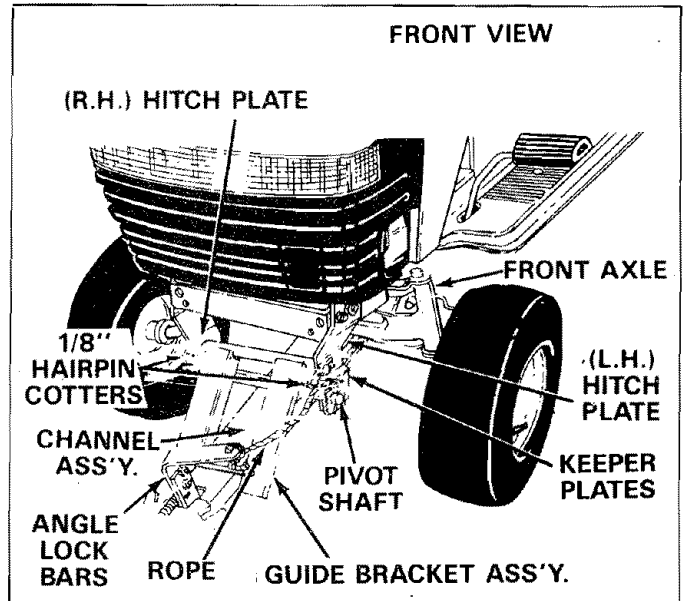

FIGURE 25
3. Refer to figure 25 below and remove 1/8" (large) hairpin cotters from ends of guide bracket assembly and remove guide bracket assembly.
4. Refer to figure 25 above and remove 1/8" (large) hairpin cotters from ends of channel assembly pivot shaft and remove keeper plates. Lift the channel assembly pivot shaft out of the hitch plates and lower channel to the ground.
Hitch plates do not require removal for re-assembly of mower deck, except for use of the rear bagging attachment with front weight. See figure 25.